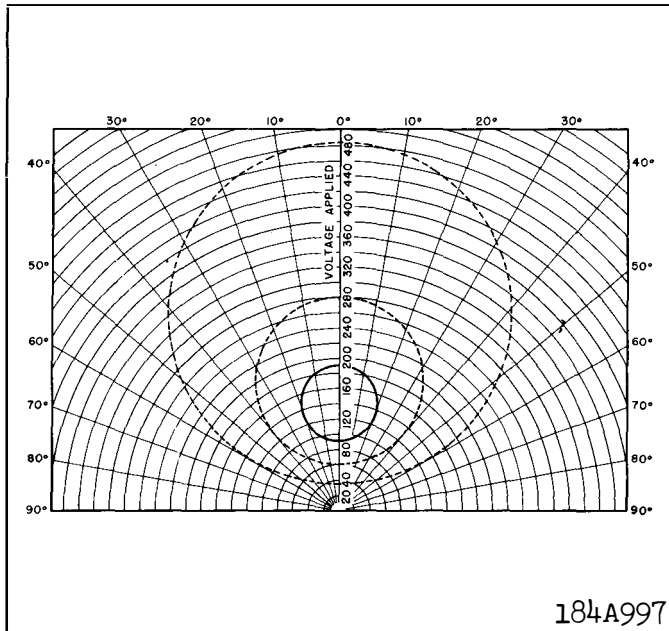
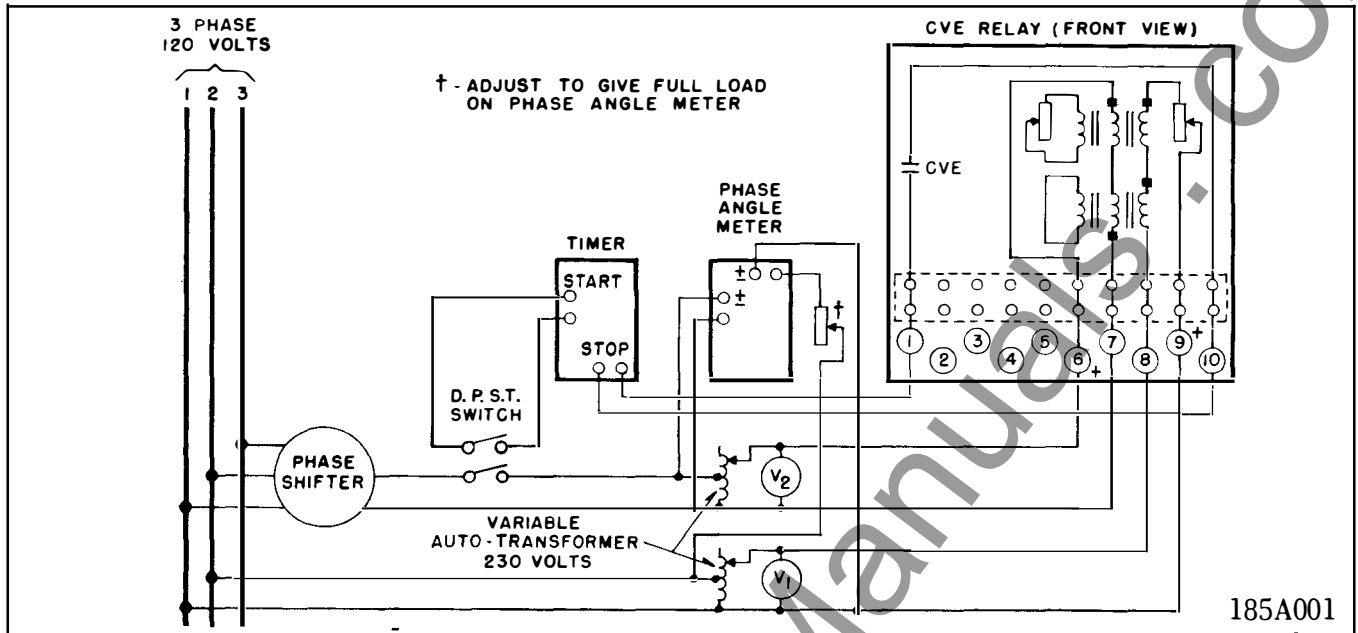

Fig. 6. Typical Voltage - Angle Characteristic of CVE for Various Closing Angle Settings. Rated Voltage on One Circuit.
Fig. 10. Diagram of CVE Test Connections.
The type CVE relay can be adjusted for operating circles from 20 to 60 degrees as shown in Fig. 6. As shipped from the factory the relay is calibrated for the 20 degree circle. These circles apply when one side has rated voltage. The relay operates, if the other voltage falls within the appropriate circle.
2. Operating Circle — Connect the relay per the test diagram of Fig. 10. The contacts should just close when V_2 is within ± 4 volts of the values shown in Fig. 6 for different angles on the 20 degree circle when V_1 is equal to rated voltage.
- * 4. Single Phase Test — Where a phase shifter and phase angle meter are not available, the relay can be tested with in-phase voltages. Connect the inputs of the variable auto-transformers of figure 10 to a common source. To check the operating circle, apply V_1 equal to rated voltage and vary V_2 . The relay contacts should just close when V_2 is raised to 94 ± 4 volts and should just open when V_2 is increased to 190 ± 4 volts.
3. Spurious Torque Adjustments — With the relay set as per the preliminary adjustments, open the lag coil circuit of the rear electromagnet. This can be done by opening the screw connection on the lag coil of the rear electromagnet or by inserting a piece of insulating material under the adjustable point of the left hand resistor (front view). Connect the relay to test circuit of Fig. 10 and apply rated voltage at zero phase angle on both circuits. With the right hand plug all the way
2. Spurious Torque Adjustments — With the relay set as per the preliminary adjustments, open the lag coil circuit of the rear electromagnet. This can be done either by opening the screw connection on the lag of the rear electromagnet or by inserting a piece of insulating material under the adjustable point of the left hand resistor (front view). Apply rated voltage at zero phase angle to both circuits of the relay. (This can be done by connecting the inputs of the variable auto-transformers of Fig. 10 to a common source. With the right hand plug all the way in, adjust the left hand plug such that the disc does not move from the number 11 time dial position. This can be determined by no movement of the disc when the time dial is moved beyond the number 11 position.
With V_1 in Fig. 10 equal to rated voltage the following approximate voltages should be obtained across the coils of the 120 volt relay. Relay set for 20 degree circle.